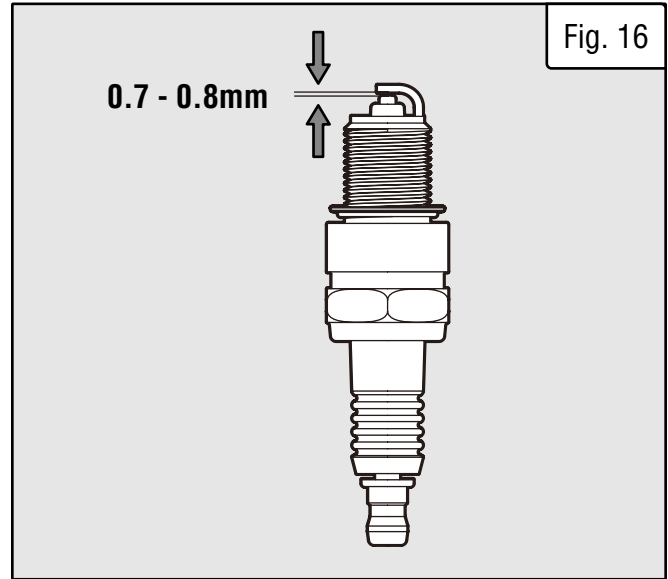

Fig. 16
5. Measure the plug gap with a spark plug gap gauge. The gap should be **0.7 to 0.8 mm (0.028-0.031 in)**. Carefully adjust the gap if necessary. See Fig. 16.